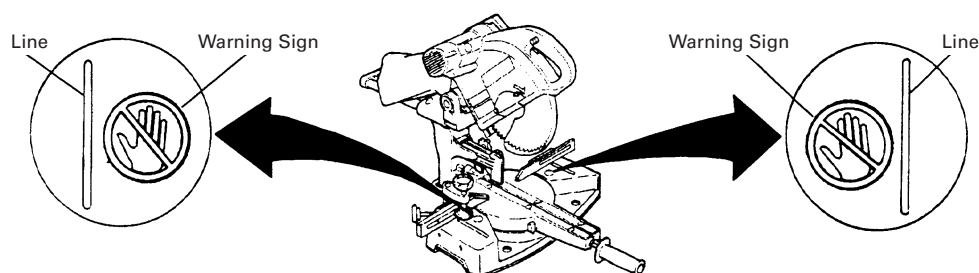

Fig. 16
* Never place your limbs inside of the line next to warning sign while the tool is being operated. This may cause hazardous conditions (see Fig. 16).